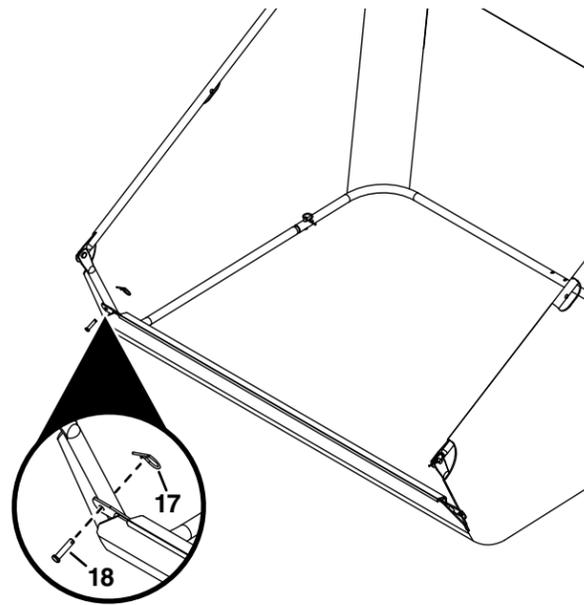

Figure 13
STEP 13 (SEE FIGURE 13): Secure the bag frame tube to the lower hopper tubes using two 1/4 x 1.11" clevis pins (18) and 3/32" hair pins (17).